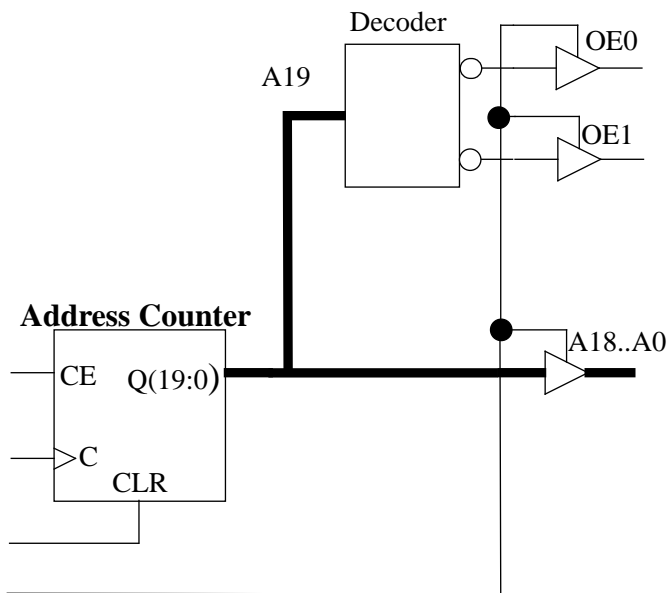

Figure 4: Selecting multiple PROMs
The output enable (OE) input pins of the PROMs can be driven by an address decode of the most significant bits of the address counter in the promMAP design as shown in Figure 4.